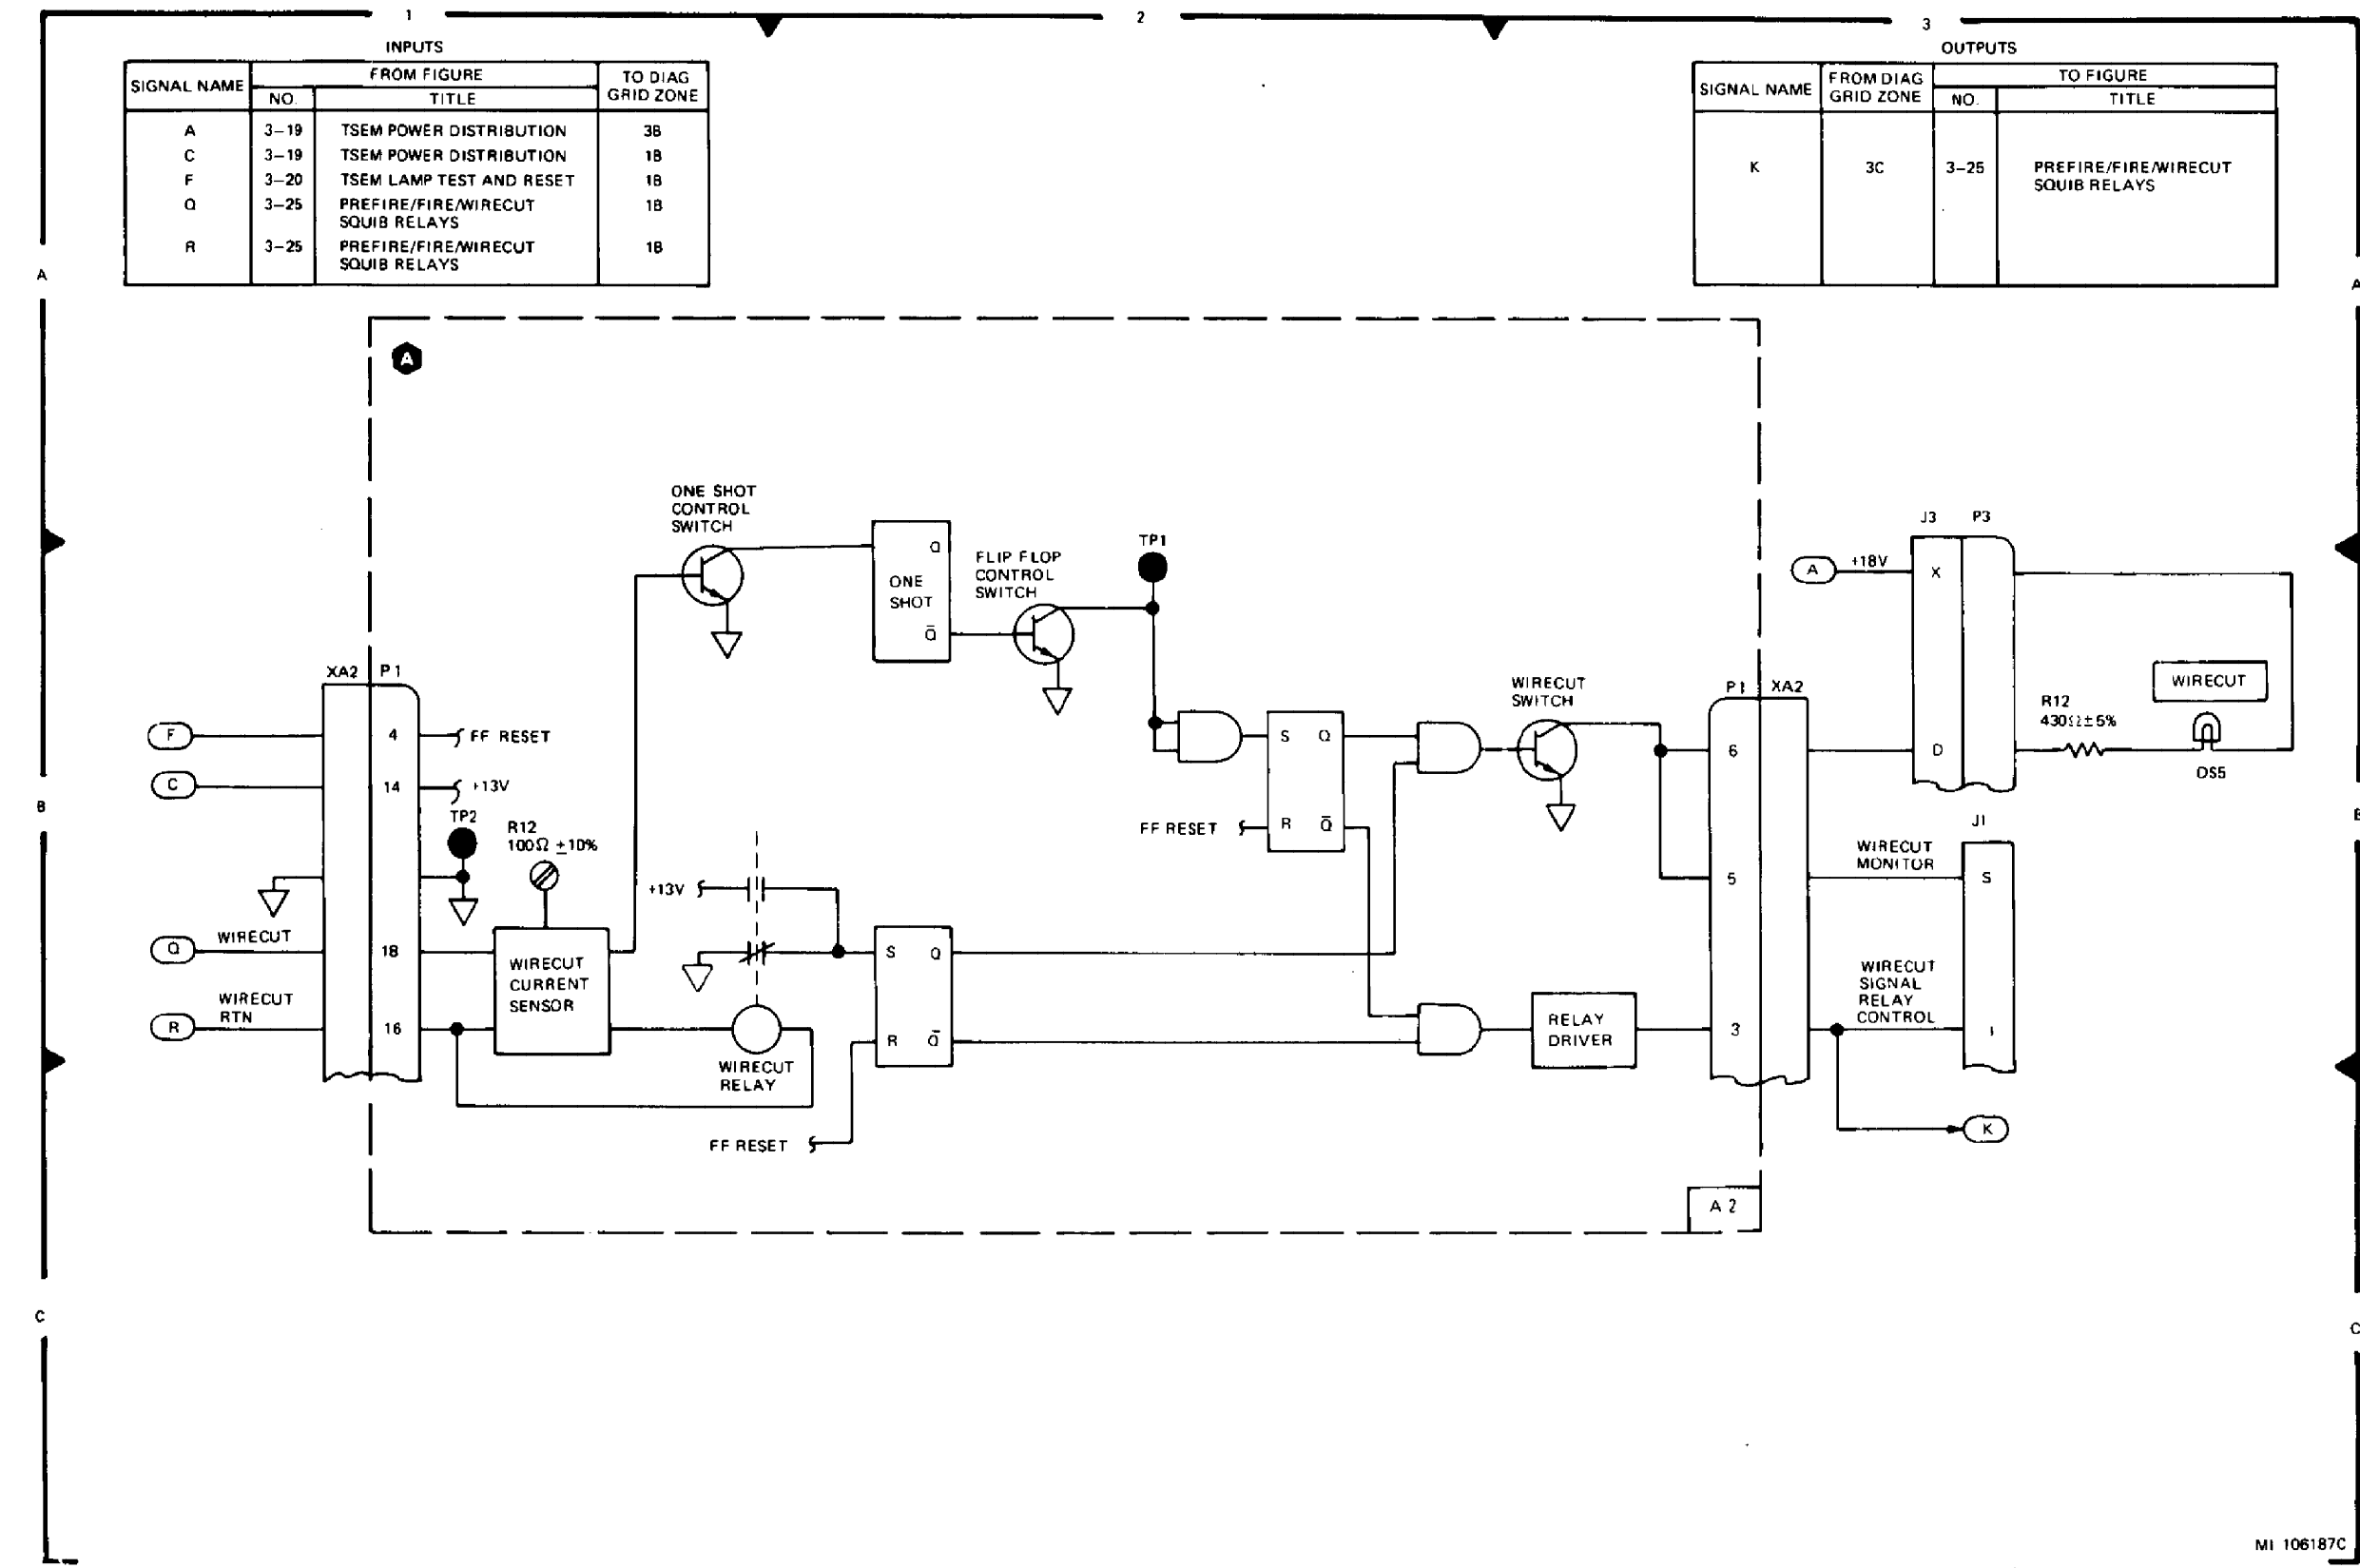

Figure 3-26. Wirecut Current Verification Functional Diagram
h. Wirecut Current Verification Function (Fig. 3-26). This function verifies that wirecut current is of sufficient magnitude to activate wirecut squibs in the TOW missile container.